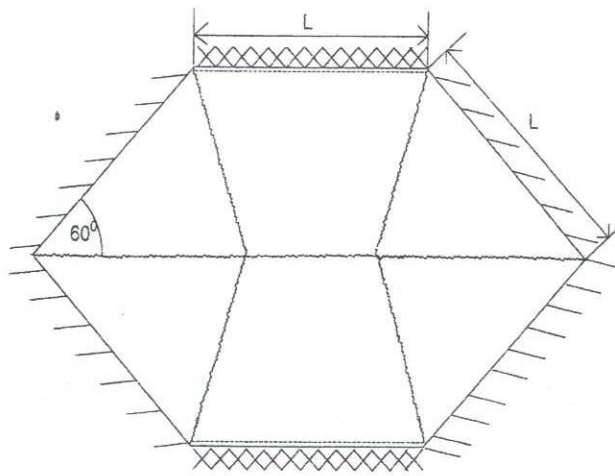

Figure Q1
- c) Isotropically reinforced hexagonal slab, which is simply supported along four edges, while fixed supported along two edges, as shown in Figure Q1. The side length of the hexagonal slab is L and overall perimeter length of the slab is, therefore, is ' $6L$ '. The slab carries a uniformly distributed load of intensity ' p ' per unit area.
Determine the corresponding collapse load for the yield line pattern given in Figure Q1, assuming the yield moment per unit length of both positive yield lines and negative yield lines as ' m '.